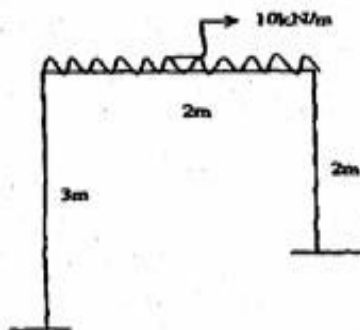

Figure 3
18. Analyse a portal frame shown in figure 3 by slope deflection method. EI is constant for the entire frame.